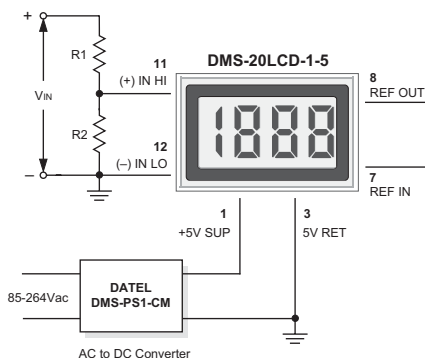

Figure 4. Input Attenuation Circuit
- 3. Engineering Scaling:** For measuring voltages greater than the full scale input range of a given meter, the input signal must be attenuated. A simple voltage divider (similar to that shown in Figure 4) will scale the input to within the range of the selected meter. R1 and R2 should be precision, $\pm 1\%$, metal-film resistors with absolute TCR's less than 50ppm/ $^{\circ}C$. See Ap Note 4 for more information on engineering scaling.